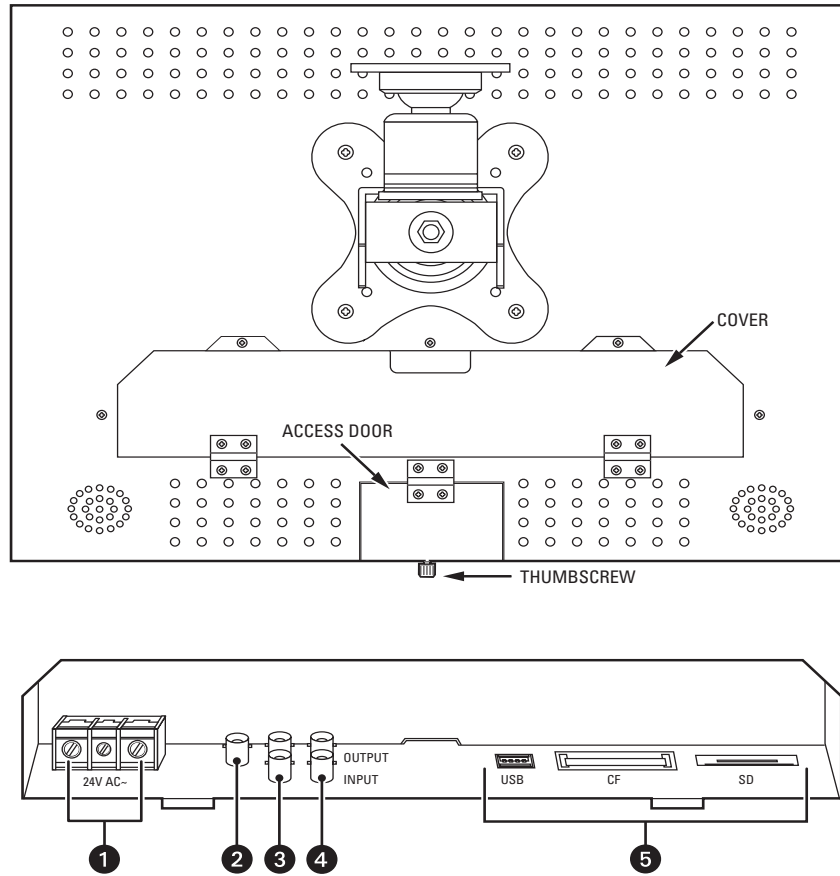

Figure 2. Rear Panel Connectors
2. Attach the leads from the power supply (not supplied) to the left and right connectors, refer to callout 1 in Figure 2 on page 9. For more information about power supplies, refer to *Recommended Power Supplies* on page 25.
3. Connect the camera output and any other devices using the connectors, refer to Figure 2 on page 9. Devices that can be connected include DVD players, time-lapse VCRs, and media cards.